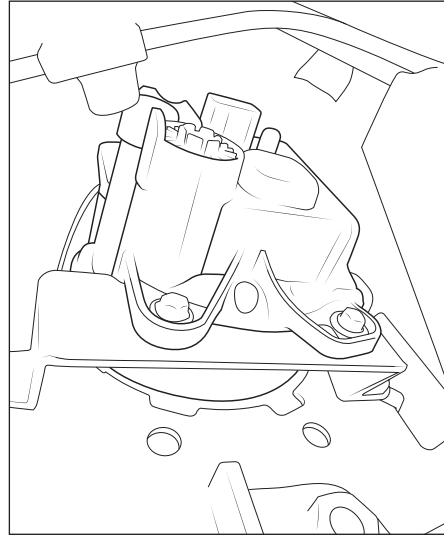

Figure 4
- iii. Slide lights into position (make sure they're not upside down) and loosely install the OEM mounting screws through the outer holes. Slide the AEV mounting brackets into place so that the rounded cutout in the brackets faces toward the lights. Bolt brackets to the fairlead U-nuts using provided M4.2x25 screws to 16 in-lb. (fig. 4). Install factory mounting screws to outer holes and torque all screws to 16 in-lb.